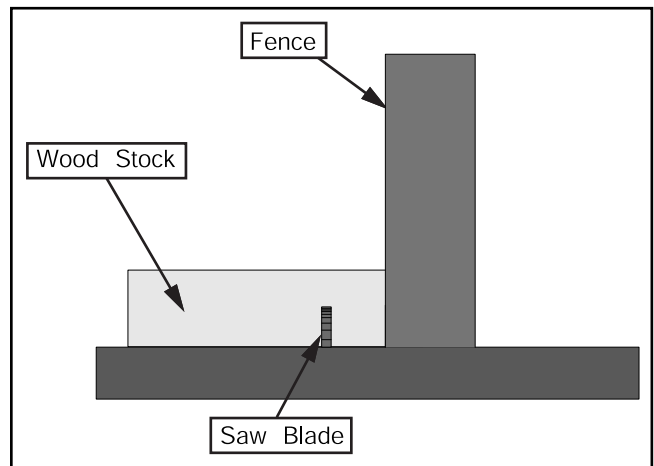

Figure 37. Rabbet cutting.
3. If the rabbet runs the length of the material, adjust the fence so the blade is aligned with the inside of your rabbet channel as shown in **Figure 37**.